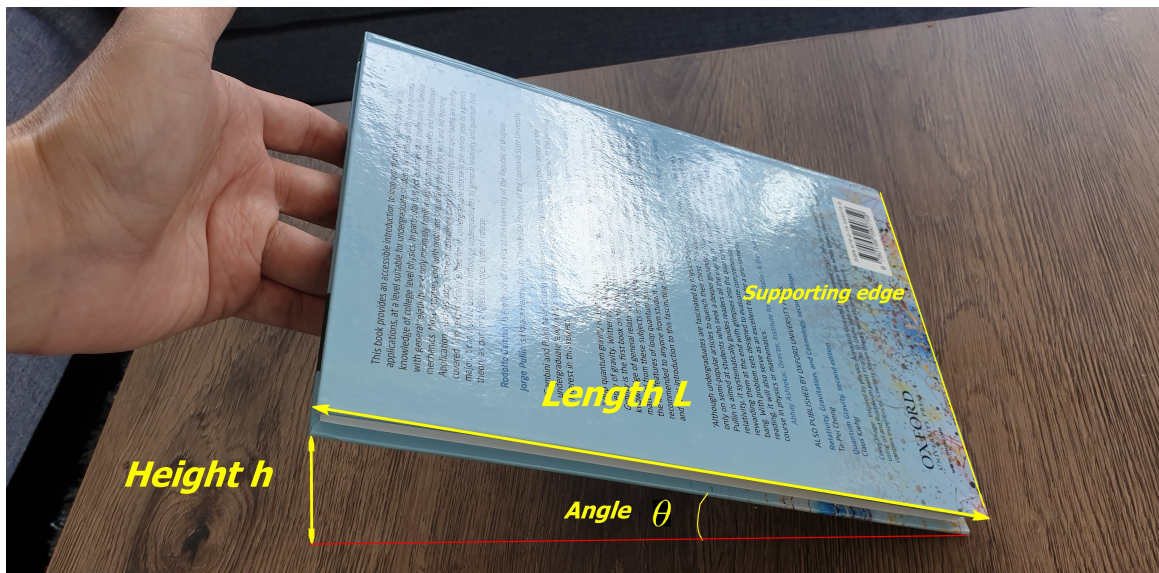

Figure 2.3: The variables L , h , θ and the supporting edge in a book used as an inclined surface.
Step 3 The inclined surface has a length, a width and a height. Measure the length of the inclined surface (Fig. 2.3) with a ruler and write it down. This value is called L .
Step 4 Place the sliding object on the inclined surface. Slowly increase the angle θ between the inclined surface and the table, keeping the supporting edge of the inclined surface attached to the table (Fig. 2.3), until the sliding object starts to move. You can consider bracing the object against a heavier object on the table.
Step 5 As soon as the sliding object starts to move, stop increasing the angle, and measure the height of the side of the book opposite to the supporting edge from the table and call it h (see Fig. 2.3). Write down this value for each trial in the table presented in the next subsection. Note that there will be 4 tables each corresponding to one of a sliding object 1 or 2 and the inclined surface 1 or 2.
Step 7 Later, we will support the inclined surface only on one of its sides that is shorter (that is, a width). Let us call this the supporting edge of the inclined surface (Fig. 2.3). While the inclined surface is still lying flat on the table, put the sliding object close to the other edge of the inclined surface (not the supporting edge), and measure the distance from the supporting edge of the inclined surface to the side of the sliding object that is closer to the supporting edge. This distance is called d . Write down this distance. Do not change the position of the sliding object.
Step 8 Keep the sliding object in place (e.g., by pressing down on it with your finger) and at the same time change the angle of the inclined surface to an angle that is larger than any of the angles you measured in the previous activity. Measure the height of the bottom side of the inclined surface opposite to the supporting edge from the table and call it h (see Fig. 2.3). Write down this value for each trial in the table presented in the next subsection. Note that there will be 4 tables each corresponding to one of a sliding object 1 or 2 and the inclined surface 1 or 2.